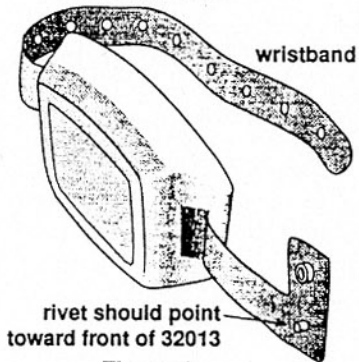

Figure 2
- 1) Slip the band through the slot in the signaling device, Fig. 2. Be sure the snaps are positioned as shown.
- 2) Place the wristband through the slot on the 32013 with the rivet facing toward the front of the device, Fig. 2. DO NOT fasten snaps on wristband yet.